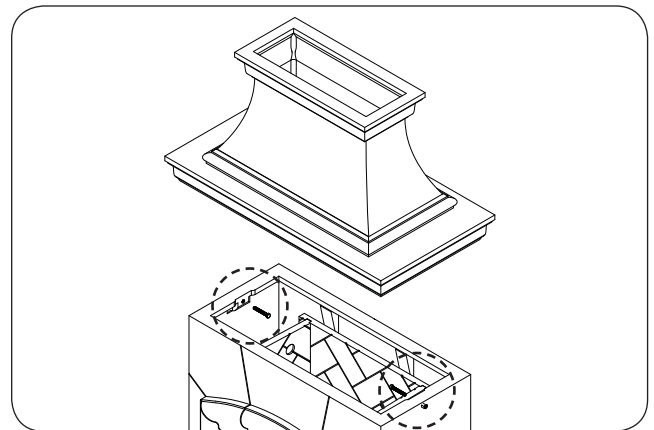
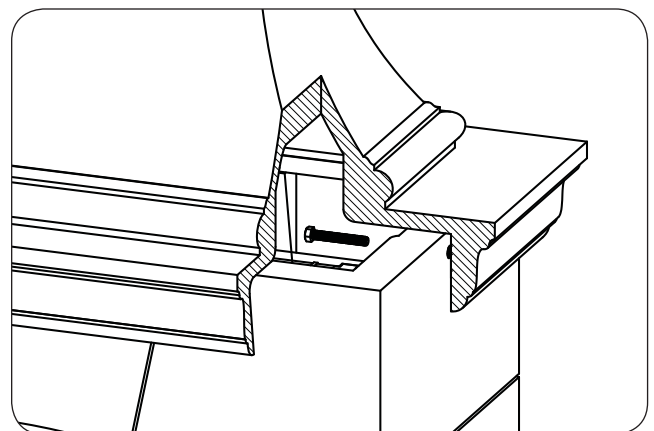

Fig. 15-2 Assemble chimney
Fig. 15-3 Bolt detail
1. Place the chimney piece on top of the body piece. See Fig. 15-2.
2. The left and right sides of the body interior each have a pre-installed bolt for securing the chimney. Reach up through the body and tighten the two bolts using a  $9/16$ " open end wrench (or equivalent). See Fig. 15-2 and Fig. 15-3.